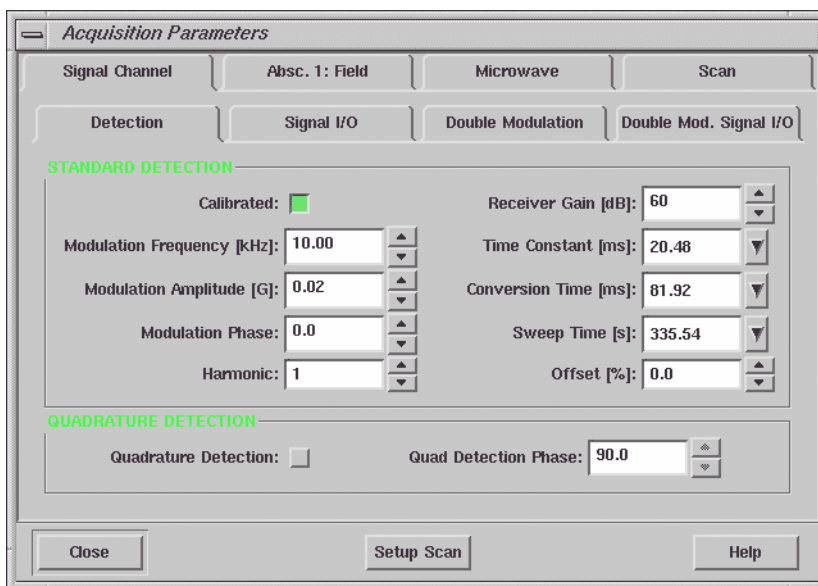

Figure 5-1 Appropriate parameters for a perylene sample.
4. **Set appropriate parameters for your sample.** Figure 5-1 shows a parameter set that works well for a perylene sample. The microwave power is set at 0.05 mW for the perylene sample to avoid line broadening due to microwave saturation. The number of data points is set at 4096.